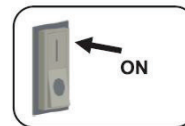

Fig:9
5) Attach the diffuser and turn on the power switch to the fixture(Fig.9).